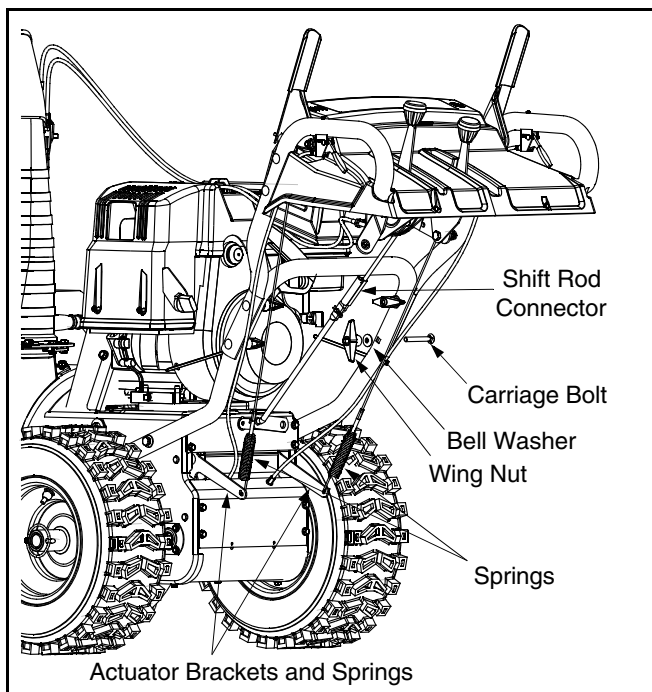

Figure 3
NOTE: Before proceeding, look at the lower rear of the snow thrower frame to be sure the spring (found at the end of each cable) is attached to its actuator bracket. See Figure 3.
- Slide the shift rod connector down over the end of the lower shift rod. Tap the connector until it **locks** over the lower shift rod. See Figure 3.